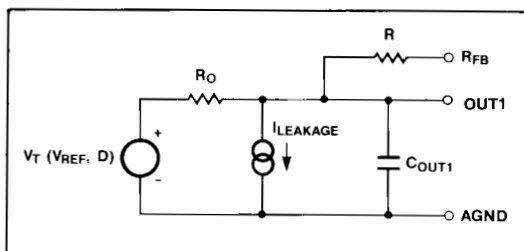

Figure 2. MX7548 Equivalent Analog Output Circuit
Figure 2 shows the equivalent circuits for the MX7548 analog section. The  $I_{LEAKAGE}$  current sources represent junction and surface leakage currents. The equivalent output resistor of the DAC is  $R_O$ , which varies with digital input code from  $0.8R$  to  $2R$  (infinite at zero code), where  $R$  is typically 11k $\Omega$ . Capacitor  $C_{OUT1}$  represents the capacitances of the switches used in the R-2R ladder. When inputs are switched from low to high, the capacitance at OUT1 changes from about 40pF to 100pF. This capacitance is code-dependent and is a function of the number of ON switches that are connected to the output.  $V_T(V_{REF}, D)$  is the equivalent voltage source controlled by  $V_{REF}$  and the digital input code (D).